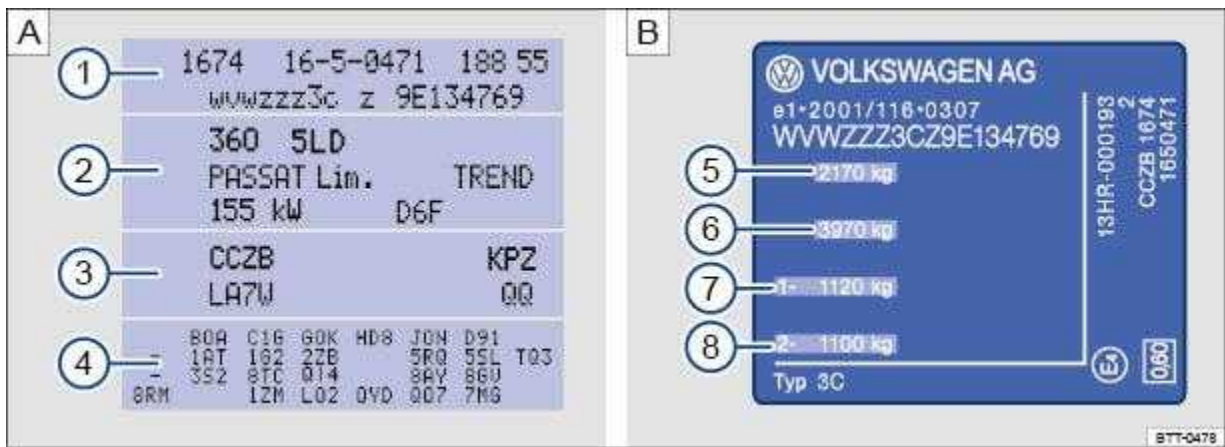

Fig. 215 : vehicle data sticker: example shows a vehicle with engine code CCZB (3) : type plate.
The vehicle data sticker ⇒ Fig. 215 **A** is located on the cover of the owner's manual and under the rear luggage compartment trim on the luggage compartment wall. It contains the following data:
- ① Vehicle identification number (chassis number)
- ② Vehicle type, engine power, gearbox type
- ③ Engine and gearbox codes, paint number, interior equipment. In the example, the engine code is CCZB ⇒ Fig. 215 **A**.
- ④ Additional equipment, PR numbers
The type plate ⇒ Fig. 215 **B** can be seen on the lower part of the door pillar when the driver door is open. Vehicles for certain export countries do not have a type plate.